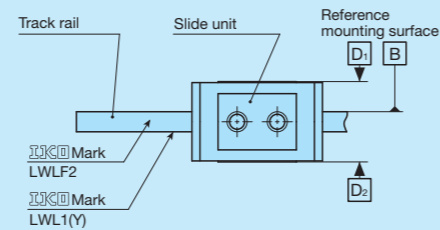
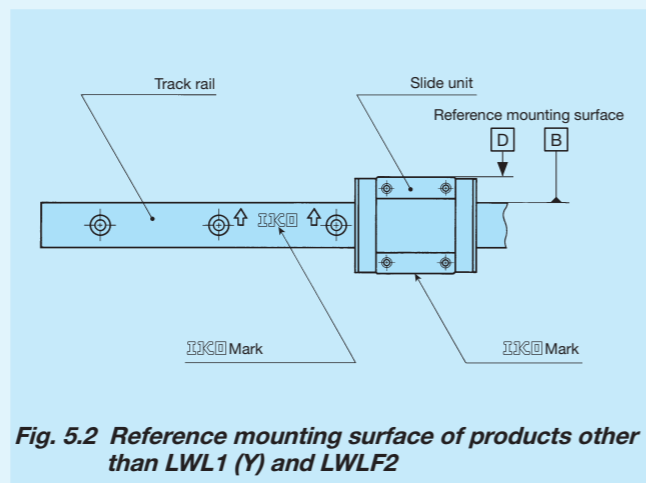

Fig. 5.1 Reference mounting surface of LWL1 (Y) and LWLF2
Fig. 5.2 Reference mounting surface of products other than LWL1 (Y) and LWLF2
The reference mounting surfaces of the slide unit LWL1 (Y) and LWLF2 are located at both the left and right sides (D1 and D2). (See Fig. 5.1)
Excluding LWL1 (Y) and LWLF2, the reference mounting surface of the slide unit is on the opposite side of the  mark. (See Fig. 5.2)
The reference mounting surface of the track rail, with the exception of LWL1 (Y), is identified by locating the  mark on the top surface of the track rail. It is the side surface above the mark (in the direction of the arrow). (See Fig. 5.1 and Fig. 5.2)